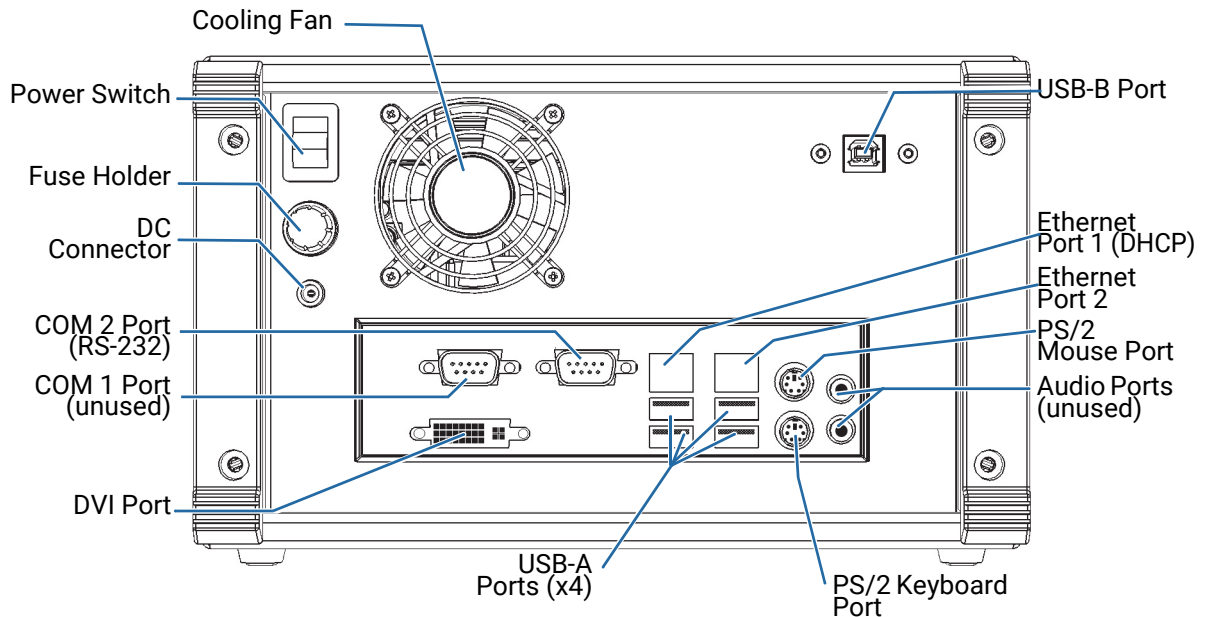

Figure 2: Rear Panel
5. On the rear panel (see Figure 2, p. 13), make sure the power switch is set to **0**.
2. On the rear panel (see *Figure 2*, p. 13), make sure the power switch is set to **O**.
- Remove the protective cap from the **IN** and **OUT** connectors and connect the appropriate jumper corresponding to the connector type mounted on your product, as indicated next to the connectors (see *Figure 2*, p. 13).